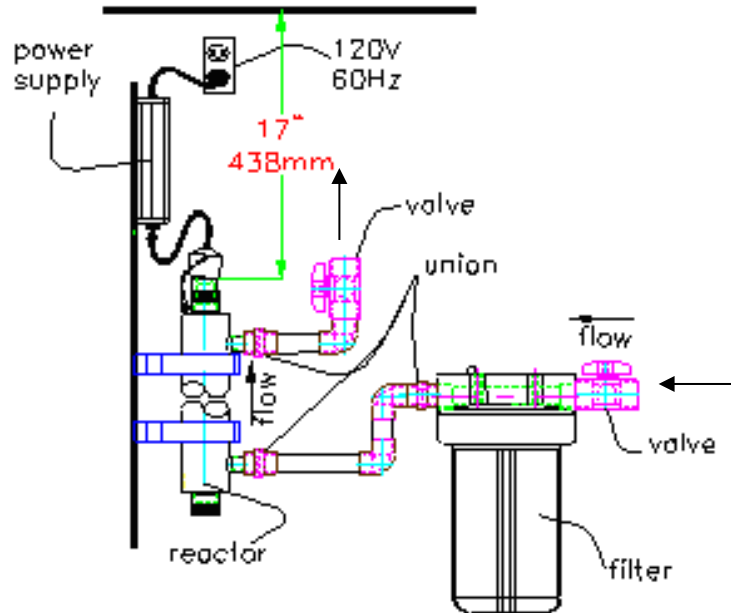

Figure 1.
Your UV disinfection system should be the last component in your water treatment system, downstream from all other equipment. Choose a location for installation with easy access to a 120VAC electrical outlet. Note the direction of water flow in the supply line. Refer to figure 1 for the typical installation diagram and ensure that you have all the fittings necessary for your installation.
A minimum distance of 17" (438mm) clearance is necessary to remove the UV lamp from the reactor. If this is not practical the reactor can be removed from the mounting clips for maintenance. Use of unions on the inlet and outlet will facilitate this removal. See figure 1.
- Install new plumbing as shown in figure 1. Note: If installing a pre-filter, use a 5 micron filter and ensure the direction of water flow is correct.